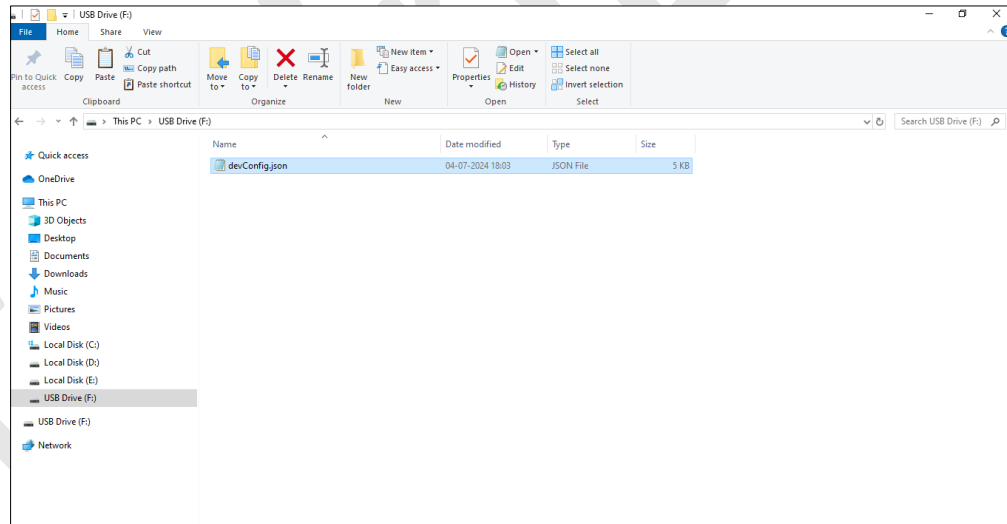

Figure 24 Device configuration Json file saved in the Data Logger
- Configuration file “**devConfig.json**” will be saved in the data logger USB drive as shown in figure 24.